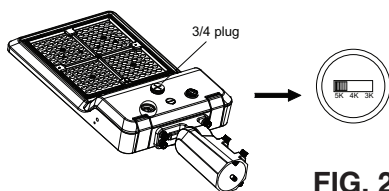

FIG. 2
1. Remove the $\frac{3}{4}$ NPT plug and adjust the switch to the desired CCT setting (see **Fig. 2**).